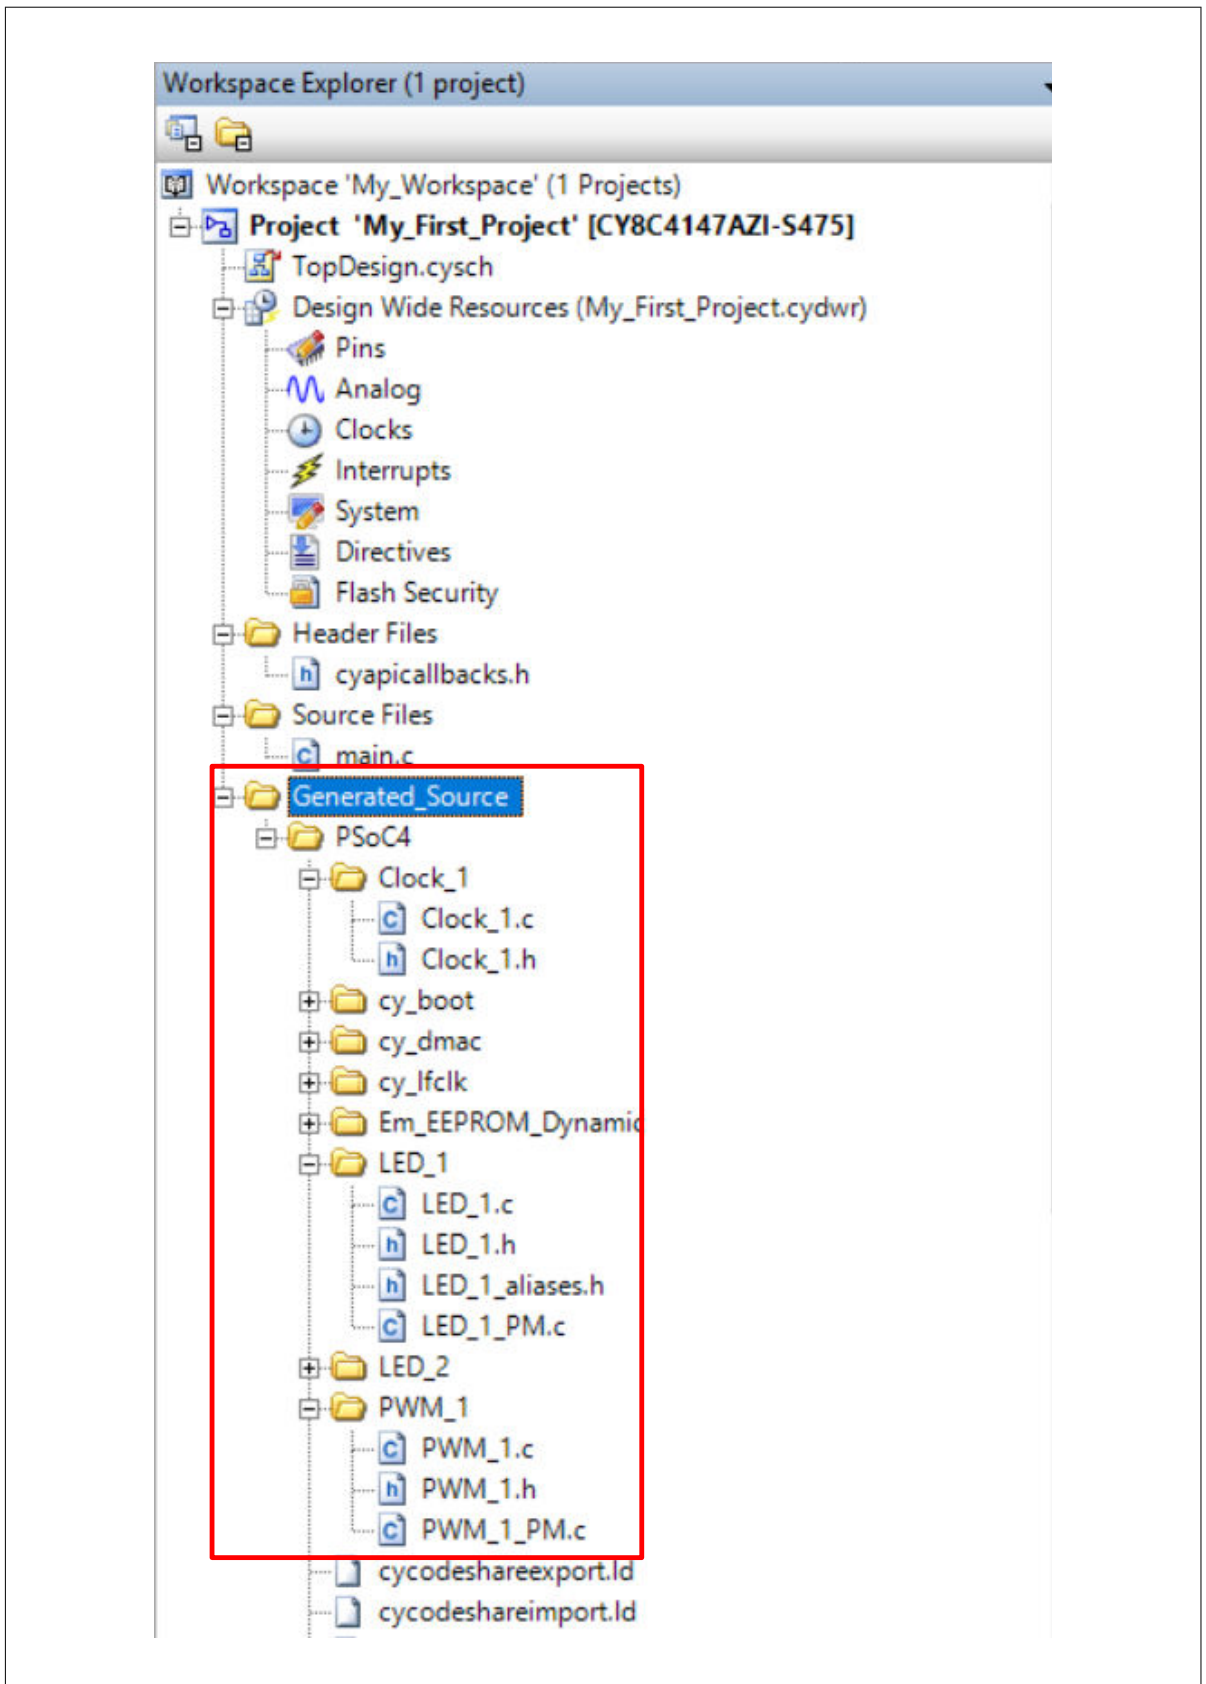

Figure 46 Generated source files
13. Select **Build My_First_Project** from the Build menu. Note that PSOC™ Creator automatically generates source code files in the Workspace Explorer window for the PWM, Clock, and Digital Output Pin Components, as shown in Figure 46.